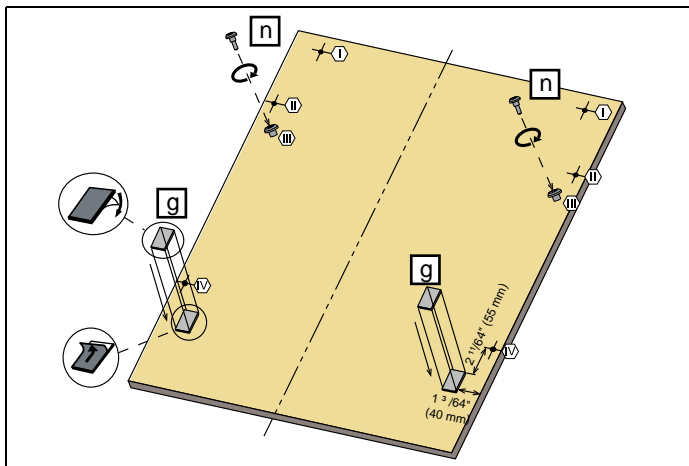

Fig. 25
3) As shown in Fig. 25 , Screws $\text{Ø}5/32'' \times 27/32''$ (4mm x 21.5mm) are installed in positions III.
4) As shown in Fig. 25 , Wooden Door Fixing Strips are installed in the positions shown in the figure.